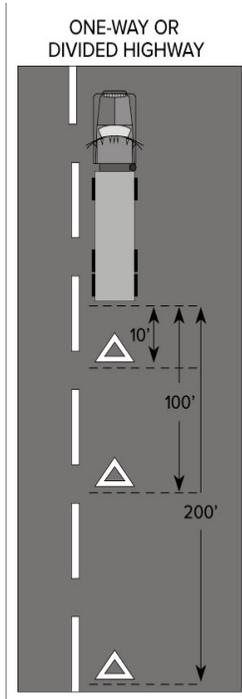

Figure 2.8
- If you must stop on or by a one-way or divided highway, place warning devices (i.e. flares, triangular reflectors, cones, etc.) 10 feet, 100 feet, and 200 feet toward the approaching traffic. See *Figure 2.8*